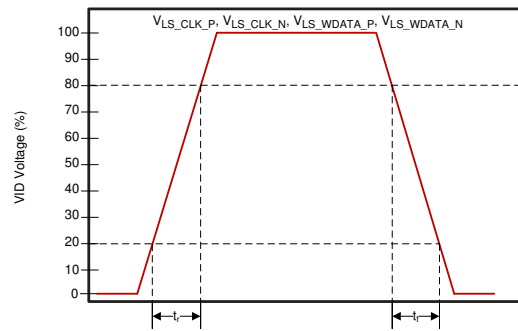

图 6-5. LSIF Rise, Fall Time Slew
- (2) See 图 6-5 for rise time and fall time for LSIF.